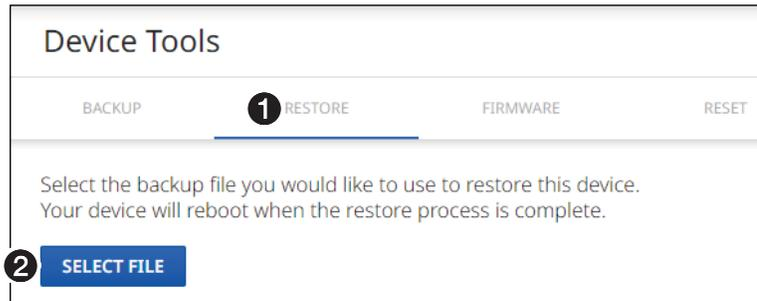

Figure 21. Tools – Restore Function
1. On the Device Tools page, click **RESTORE** (see figure 21, ❶).
2. Click **SELECT FILE** (❷).